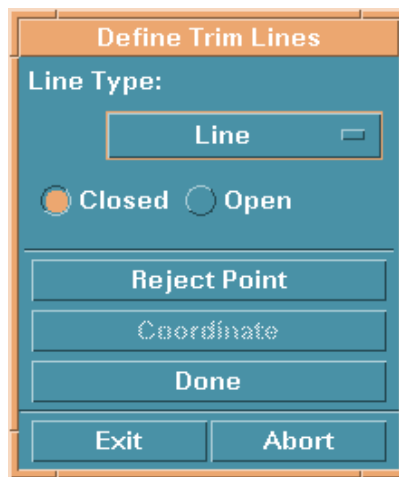

Figure 6.2.5 Define Trim Line
2. Select a line as the boundary. If there is no line in the current database, click EXIT, the DEFINE TRIM LINES dialog window is displayed, see Figure 6.2.5.